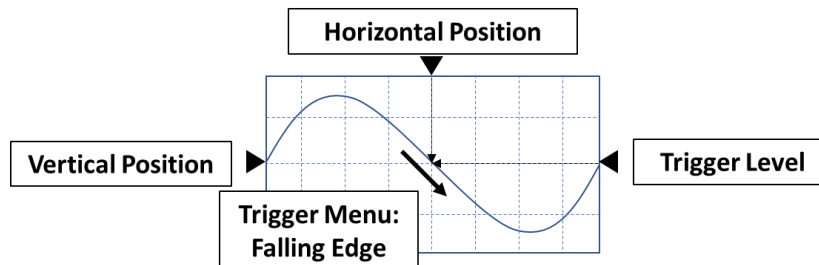

Figure 9 "Triggering" functionality
16. It would be very interesting to see the voltage waveform output from the H-Bridge (Motor Driver). In order to do this, we shall use an Oscilloscope! Please revisit Figure 4 to Figure 9 above to understand how an oscilloscope works.